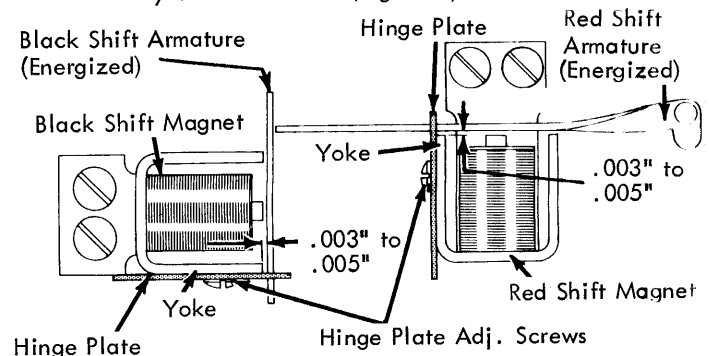

FIGURE 269. Hinge Plates
- a. With the armatures energized, position the hinge plates so that the armatures clear the magnet yokes by .003" to .005" (Fig. 269).